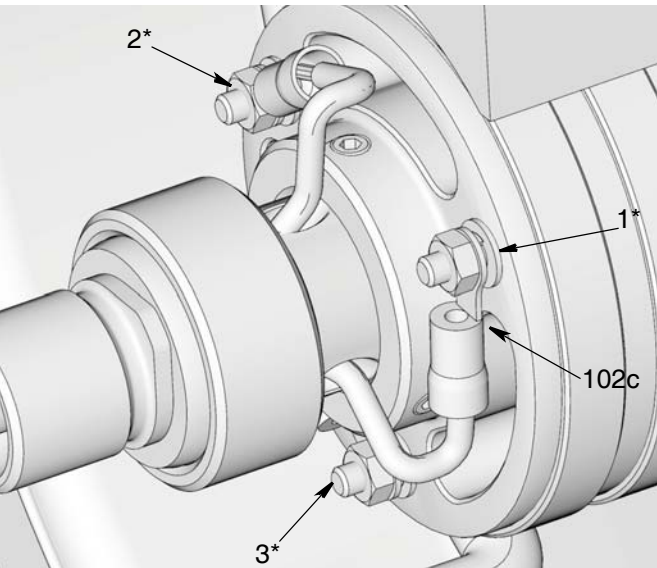

FIG. 18
- 4. Mount terminal rings (102c) to appropriate mounting stud as shown in FIG. 18. Refer to Table 3 for wire locations.